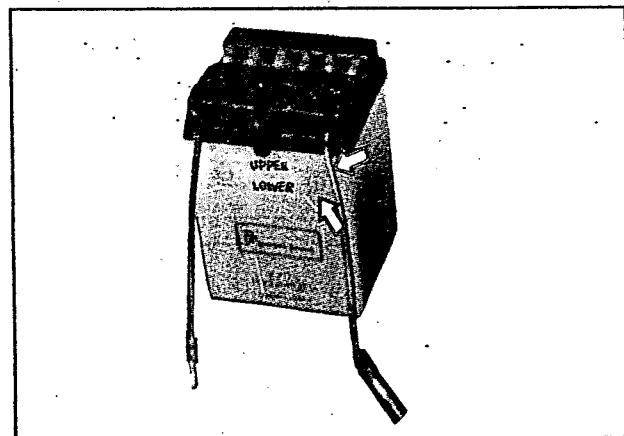

Fig 2.17A
- Add distilled water, as necessary, to keep the surface of the electrolyte above the LOWER level line but not above the UPPER level line. (fig 2.17A)